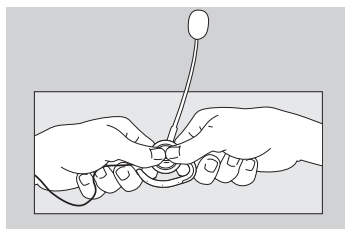

Figure 3-4. Removing Earhook.
1. Position the receiver assembly with the speaker side up and the microphone boom at 12 o'clock (see Figure 3-4).